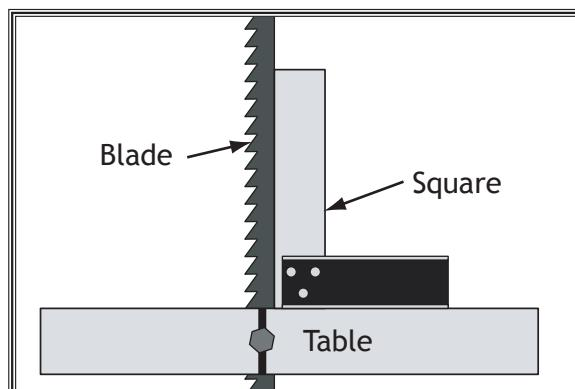

Figure 109. Adjusting table perpendicular to blade (side to side).
2. Place one edge of square on table and other edge of square against blade side, as shown in Figure 109.